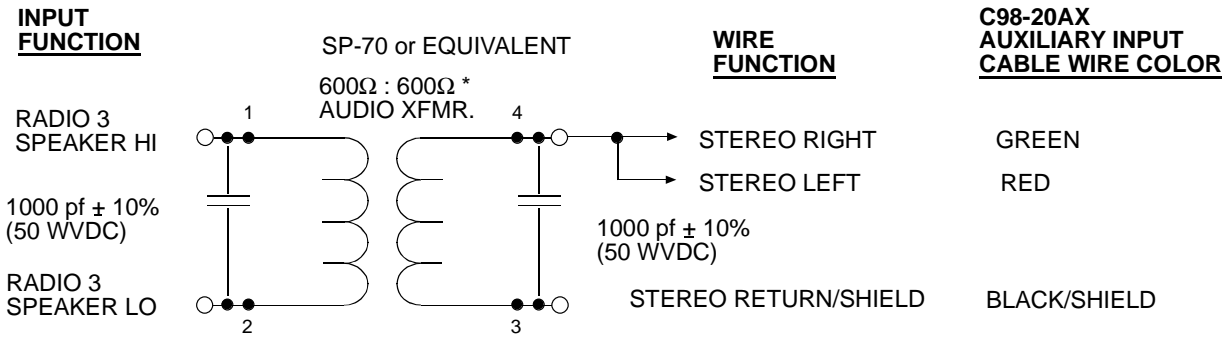

Figure 9: Audio isolation transformer circuit used to interface to Ext. Speaker of 2-Way/Wx radio
- ☐ See **Figure 9 & Table 3** which show how to connect an isolation transformer between the radio and the C98-20AX cable. Stereo installations require two transformers.
- ☐ The installer will fabricate the circuit in **Figure 9**, mount it in an appropriate enclosure, and interface it with the radio and the C98-20AX cable.